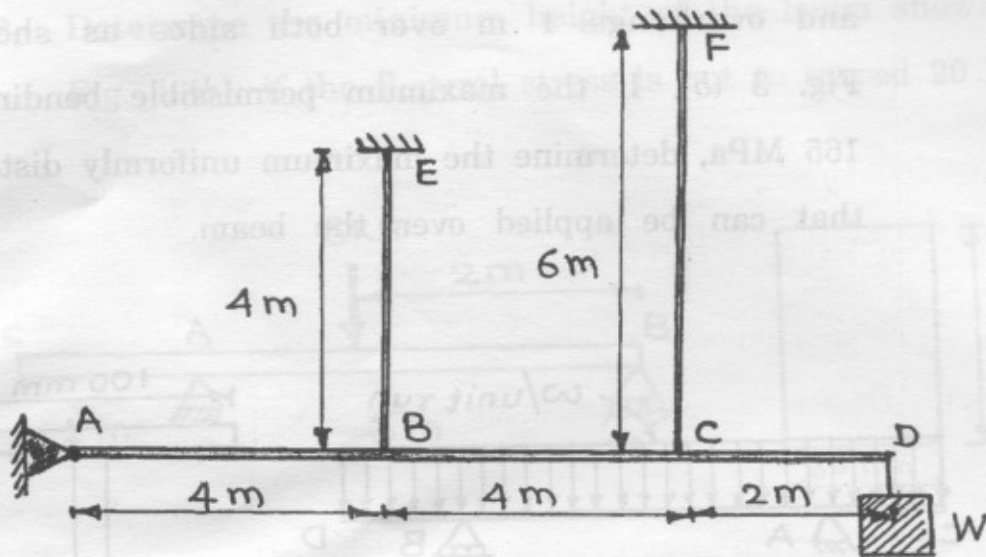

Fig. 2 (b)
- (b) The two vertical attached to the light rigid bar shown in Fig. 2 (b) are identical except for length. Before the load 'W' was attached, the bar was horizontal and the rods stress free. Determine the force in each rod if $W = 6600 \text{ N}$. [8]